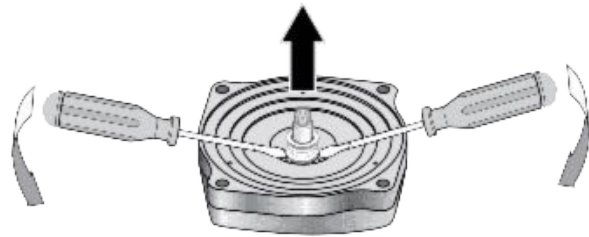

Figure 21: Pry Out Seal
6. Using two screwdrivers, as shown in Figure 21, pry out rotating assembly of shaft seal.